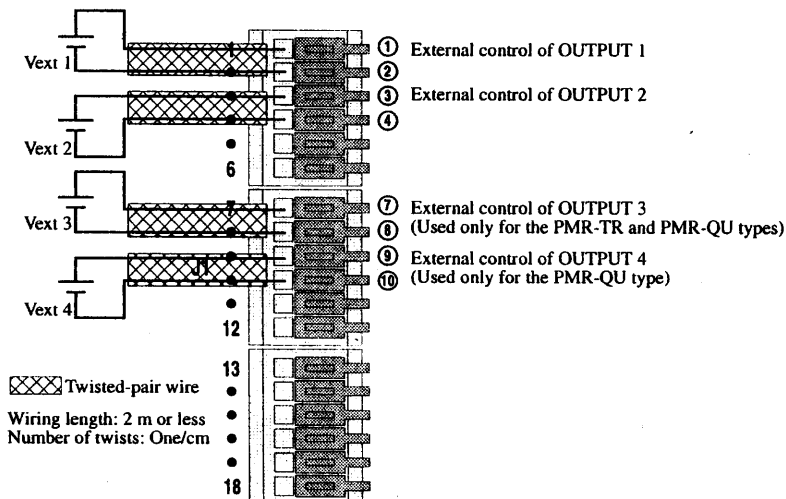

Fig. 4-6 Connecting an external voltage generator (Vext) 1 (using different COMMON terminals for Vext)
4. Connect Vext to the control terminal corresponding to the output to be externally controlled, as shown in Fig. 4-6.
9. Connect an external voltage (Vext 3) to terminals 7 and 8 on the J1 terminal board. See Fig. 4-6 .